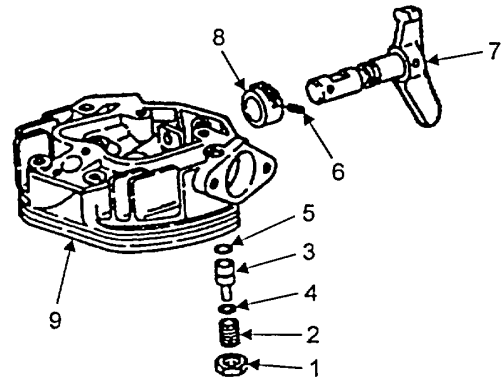

FIGURE 5-23. DECOMPRESSION MECHANISM
a. Install pinion (Figure 5-23, Item 8) in cylinder head (9). Gear teeth go toward the inside and no-teeth area of the pinion at the bottom.
b. Insert decompression shaft (7) through cylinder head (9) and into pinion (8).
c. Align holes in pinion (8) and decompression shaft (7).
d. Install roll pin (6).
e. Install new preformed packing (5) on pin (3).